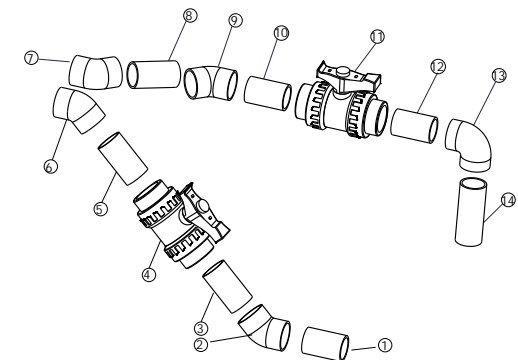

Figure14
- 2) For each model of pump pipe please refer to figure 14, 15, 16.